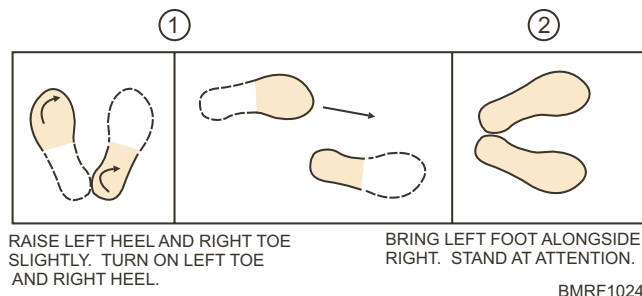

Figure 10-24.—Right Face.
**RIGHT FACE.** Right face (fig. 10-24) is a two-count movement started on the commands Right FACE. On the command FACE, (1) raise your left heel and right toe slightly and turn 90° to the right. Keep your left leg straight but not stiff; (2) bring your left heel smartly alongside the right heel and stand at attention.